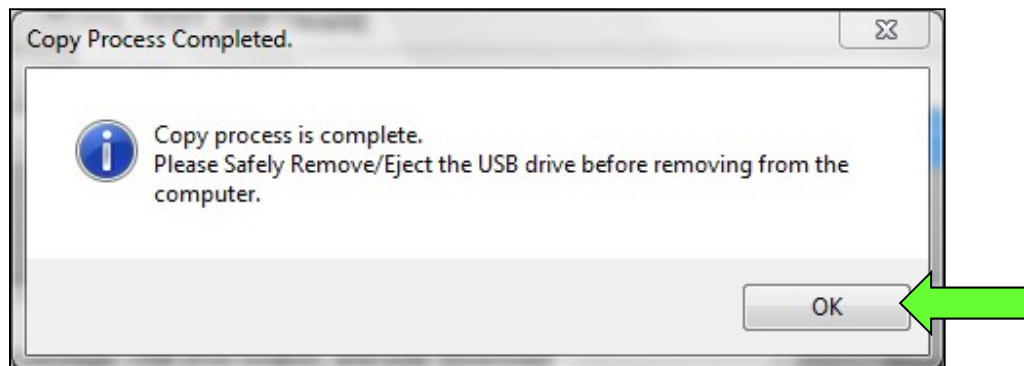

Figure 11
16. Select **OK** when the message in Figure 11 is displayed.